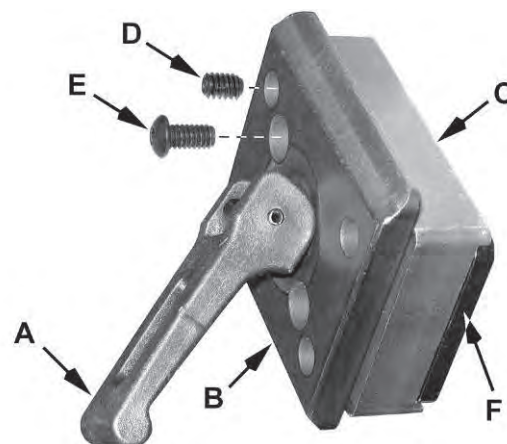

Figure 19
5. Using a 3mm hex wrench, make adjustments to four *set screws* (D, Fig. 19) accessible through openings located in the corners of the *floating clamp block* (B, Fig. 19).
Referring to Figure 19: